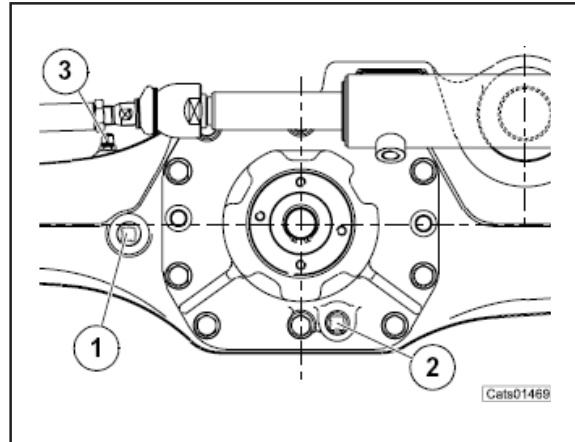

Fig.125
Before draining the oil from axle housing, use the breather (3) to release possible internal pressure. (Fig. 125)